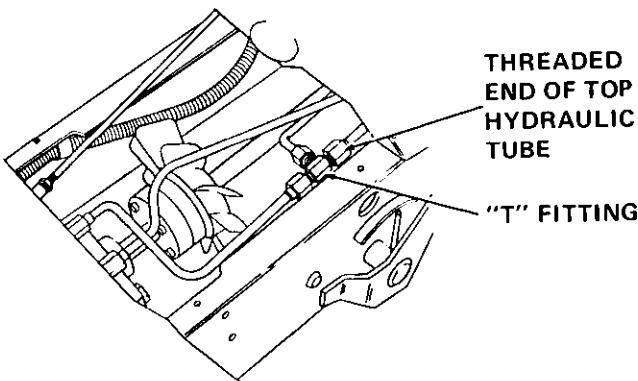

Figure 5
3. For all tractors (except Model 1541) refer to Figure 5 and remove the threaded end of the top hydraulic tube from the T-fitting.